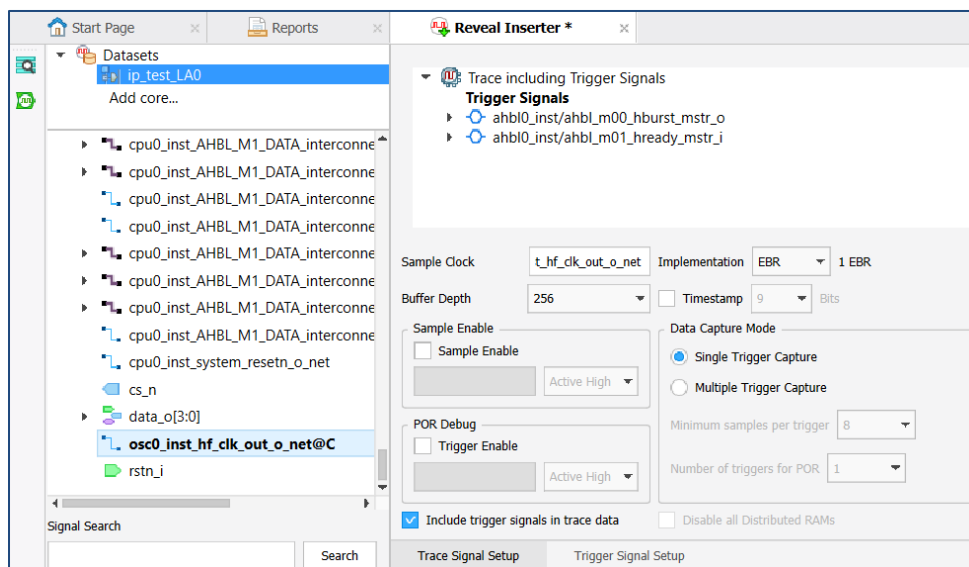

Figure 2.2. Configuring Trace Signals
1. Select the signals to trace. Drag and drop signals from the left side of the Reveal Inserter window to the Trace Signals area as shown in Figure 2.2. Trace signals are annotated using `@Tc`.